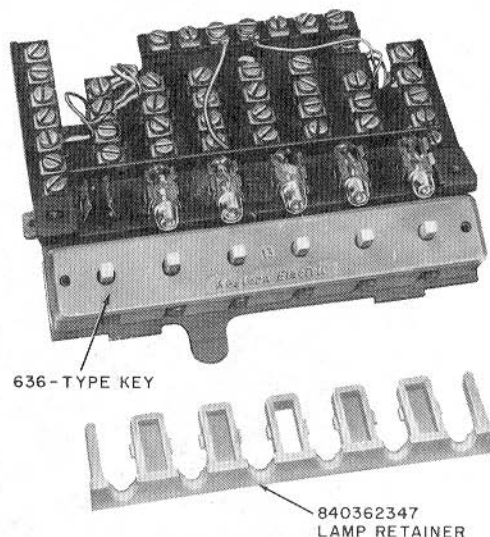

Fig. 5—Installing D-180557 Kit of Parts
2.05 In early telephone sets equipped with a 636A or B key, the 51A lamp contact springs are susceptible to losing their tension. An adjunct 840362347 lamp retainer (Fig. 5) is available and can be installed between the spring contacts of the lamps. The retainer must be ordered separately as D-180557 Kit of Parts.